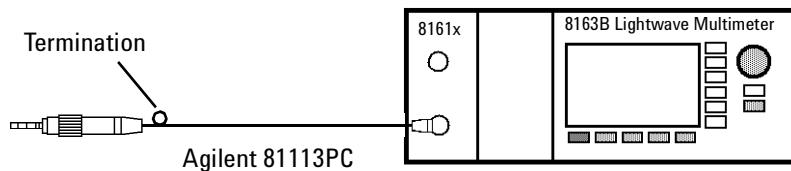

Figure 97 Termination Calibration - Internal Source
- or Figure 97 if you are using an internal source